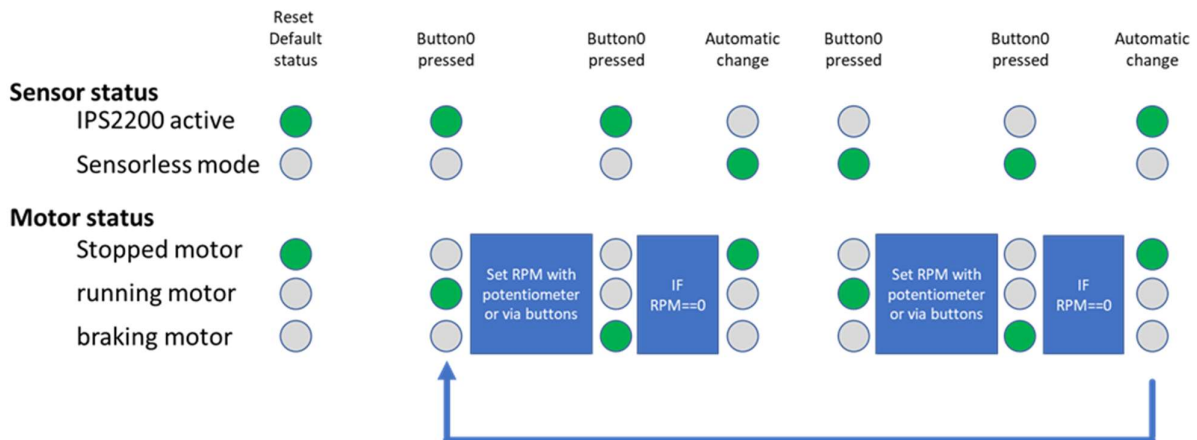

Figure 3: Detail of the Sequence of Button 0
- Button 0: starts/stops the spinning of the motor in the following sequence (see Figure 3):